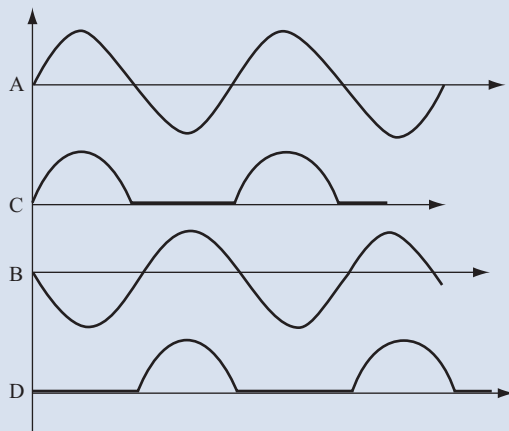

FIGURE 11.14
- C.** See Figure 11.14.
On a separate sheet of paper, draw the waveform representing the voltage at point E in the circuit, as shown in Figure 11.15. (This waveform is a combination of the waveforms at points C and D shown in Figure 11.14.)